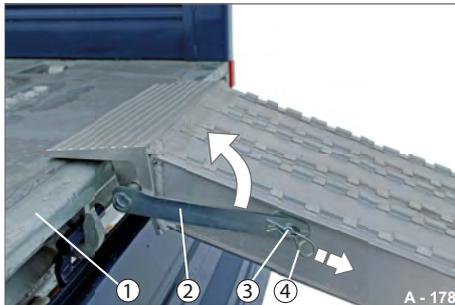

Fig. 189 Setting ramp planks down
- ▶ Remove the spring pins (Fig. 189/4) from the retaining bolt (Fig. 189/3).
- ▶ Rotate the locking lever (Fig. 189/2) downwards.
- ▶ Lift the ramp plank onto the loading platform edge (Fig. 189/1).